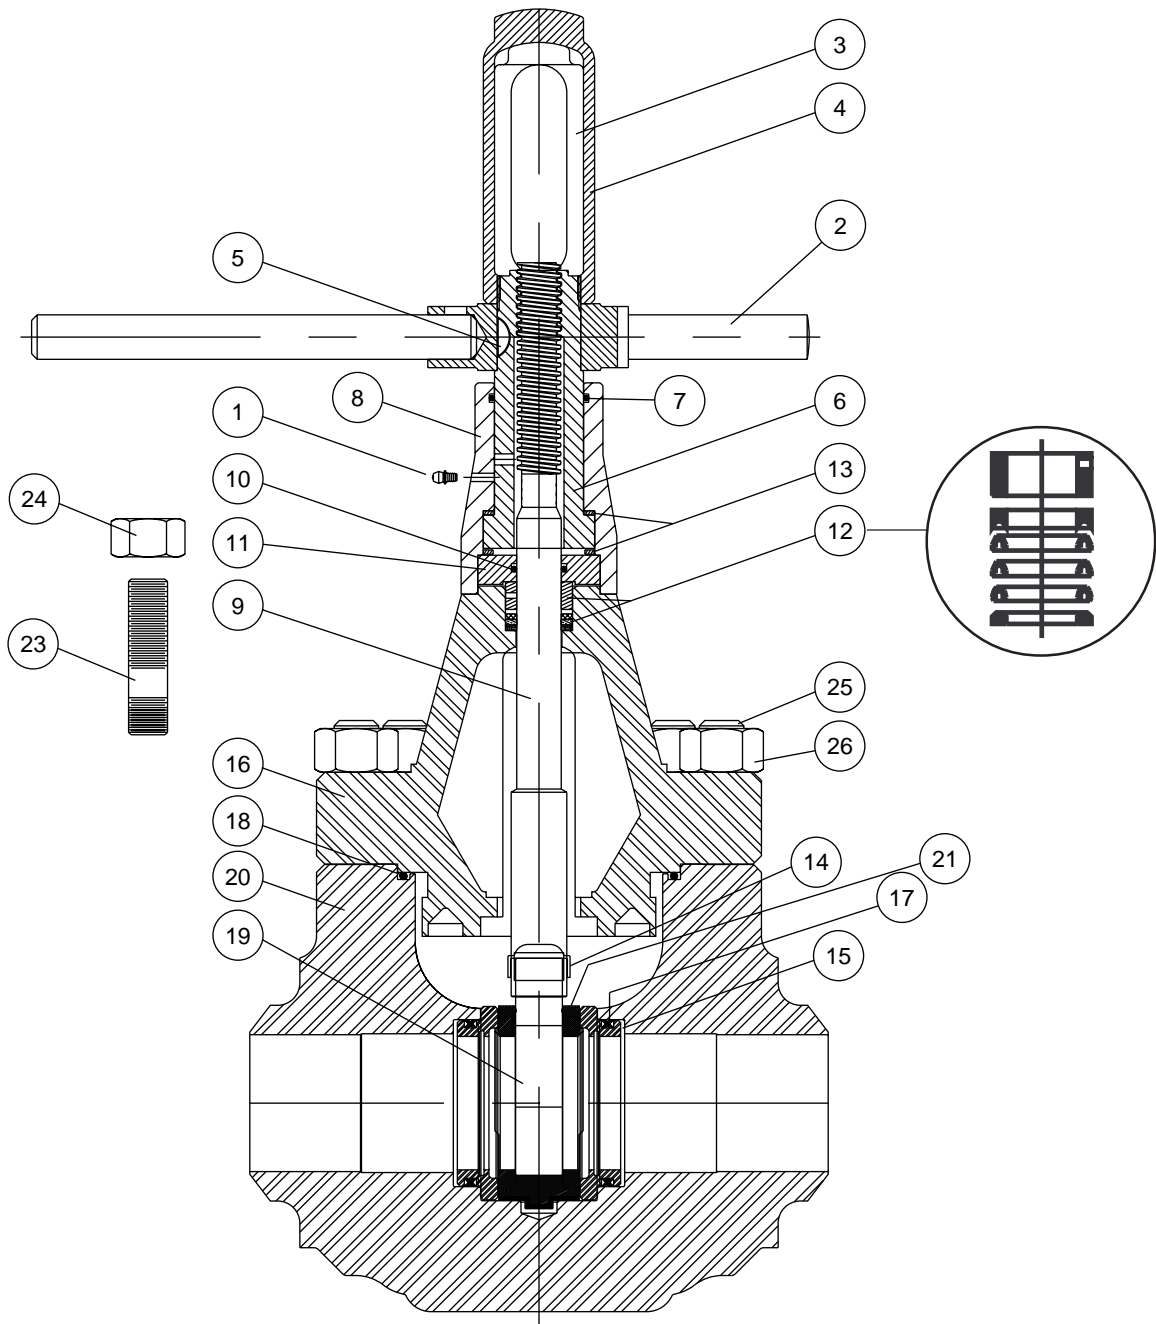

Figure 6 - 3" Series DM 7500 Gate Valve
The stem seal sub assembly (12) consists of a bottom adapter ring, a soft rubber (special) seal ring, a fiber-reinforced seal ring, a flat-backed follower ring and a bushing. These parts must be assembled over the stem (in the order listed) with the hollow side down, as shown (See Figure 6).